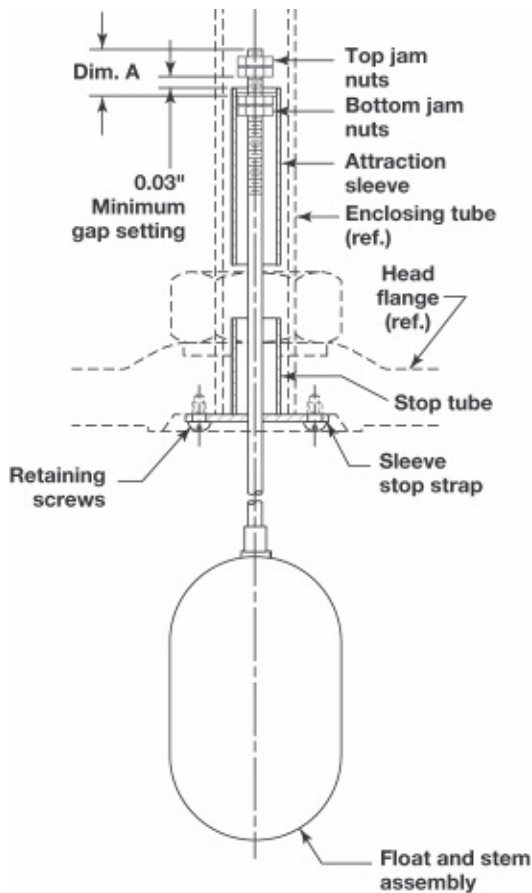

Figure 14
2. Dimension A, shown in Figure 14 must be determined by direct measurement from old assembly.